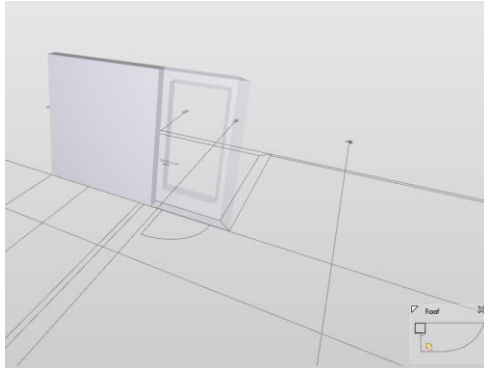

Figure 65: A wall inside another wall
- 5) Double-click the issue and you will be zoomed close to the walls causing the problem. If you feel that you are too close, click the **Zoom Out** button from the **3D View Toolbar** (see Figure 65).